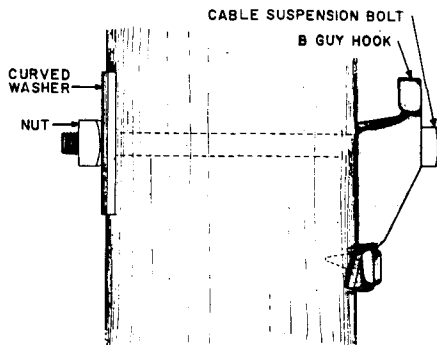

Fig. 2—B Guy Hook Installed on Pole
- (a) To install the B guy hook on poles or stubs, refer to Fig. 2 and proceed as follows:
- (1) Select a cable suspension bolt of proper size to match the guy hook and place it through the hole in the guy hook and through the pole with the threaded portion on the opposite side of the pole from the guy hook.
- (2) Place a curved washer of proper size (B curved washer for 5/8-inch bolts, E curved washer for 3/4-inch bolts, C curved washer for 1-inch bolts) between the nut on the bolt and the pole.
- (3) Permanently seat the guy hook by alternately tightening the nut and striking the heel pad of the guy hook with a hammer until the spurs are firmly engaged in the pole. A typical installation is illustrated in Fig. 2.